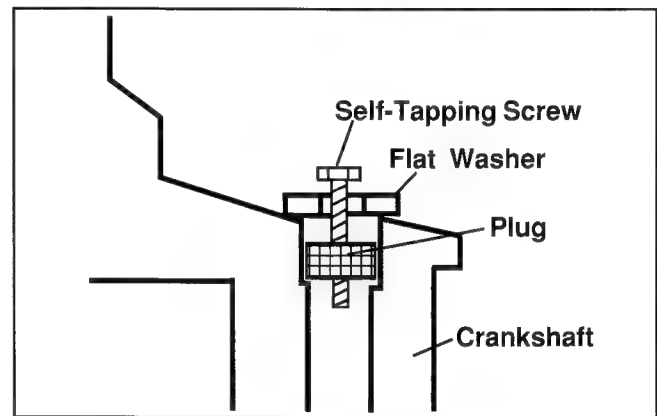

Figure 10-5. Removing Crankpin Plug.
2. Thread a 3/4" or 1" long self-tapping screw with a flat washer into the drilled hole. The flat washer must be large enough to seat against the shoulder of the plug bore. See Figure 10-5.